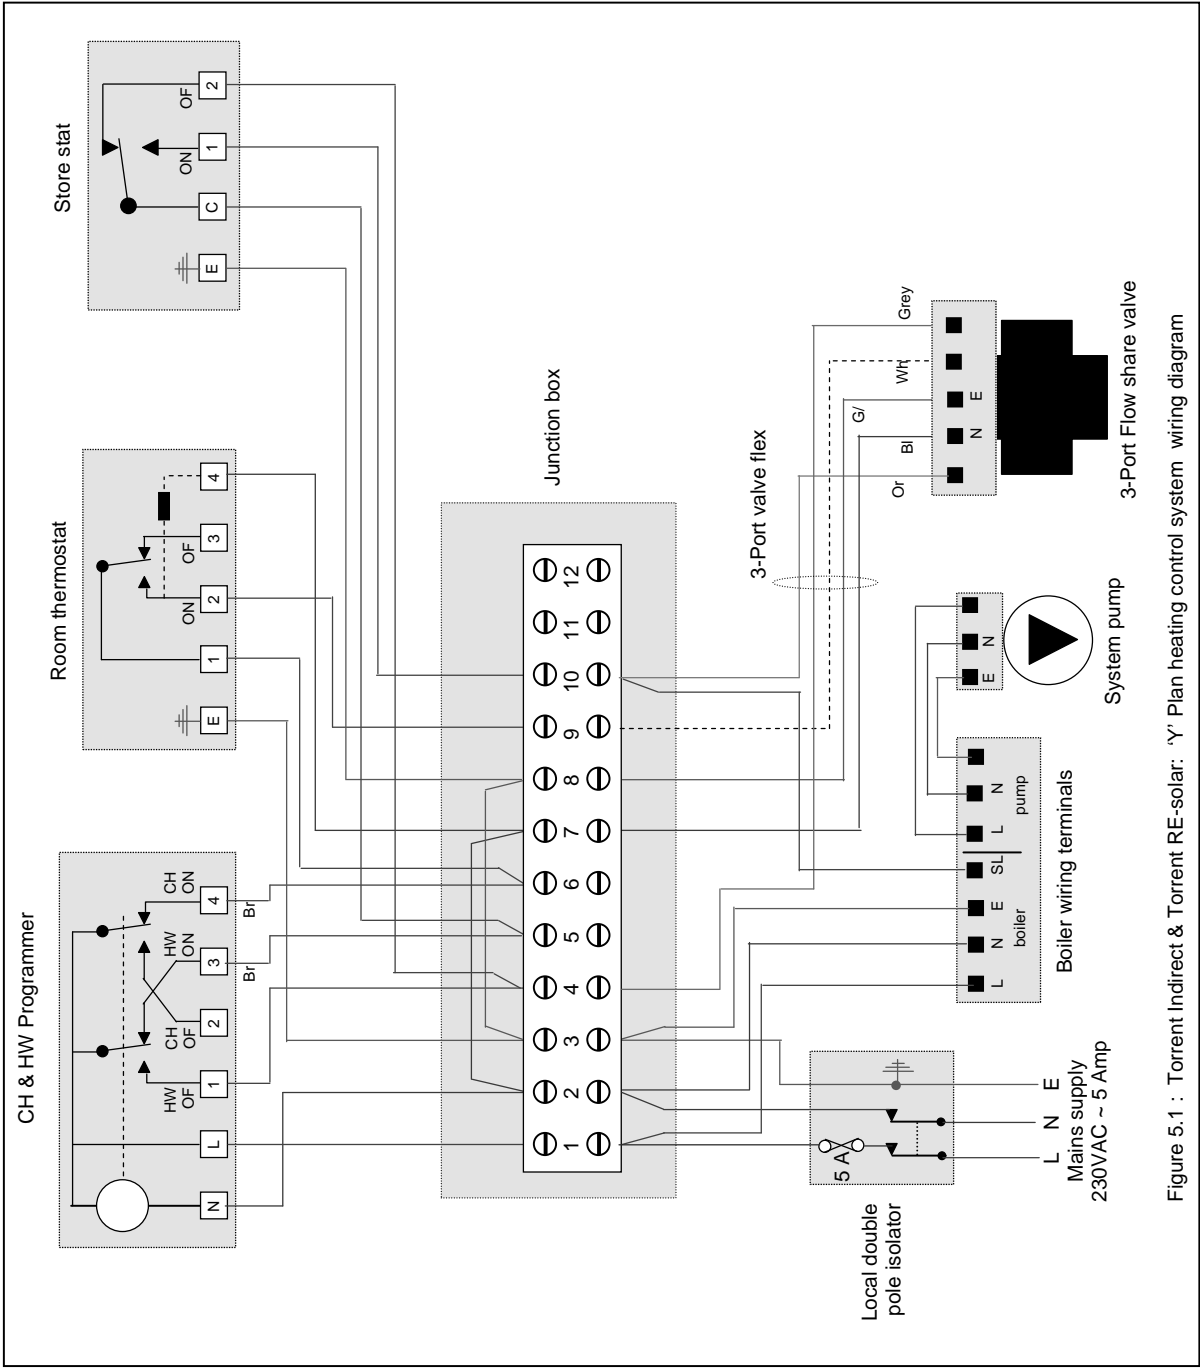

Figure 5.1 : Torrent Indirect & Torrent RE-solar: 'Y' Plan heating control system wiring diagram
- Figure 5.1 : Example wiring diagram for a 'Y' Plan heating system for the Torrent Indirect 'OV' and 'SP' models.